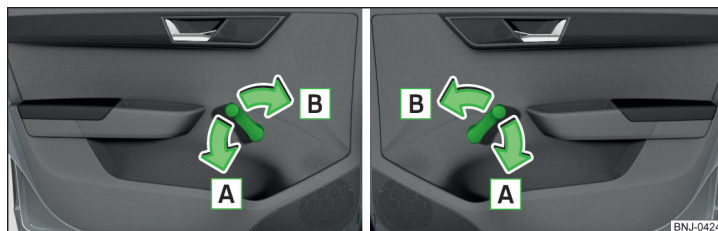

Fig. 51 Window Operation: Left/right
- To **open**, turn the crank in the direction of arrow **A** » Fig. 51.